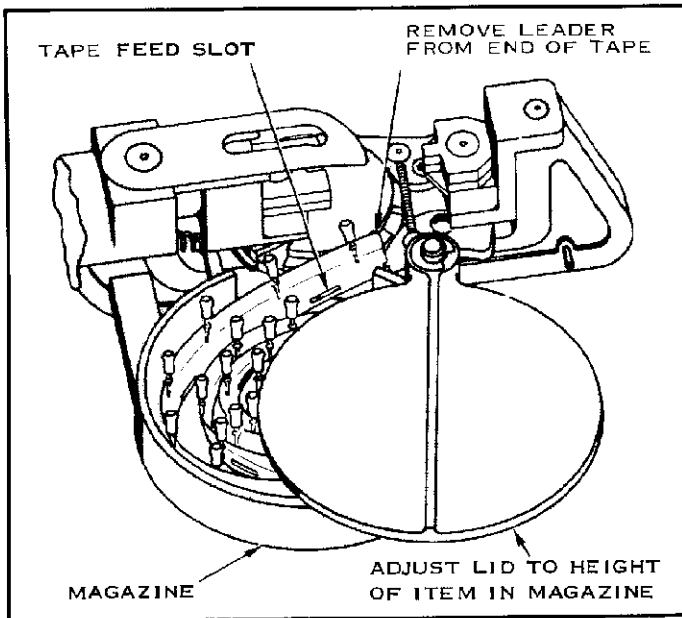

FIGURE 3
1. Place the roll of Taper Pins in the Magazine. Figure 3.